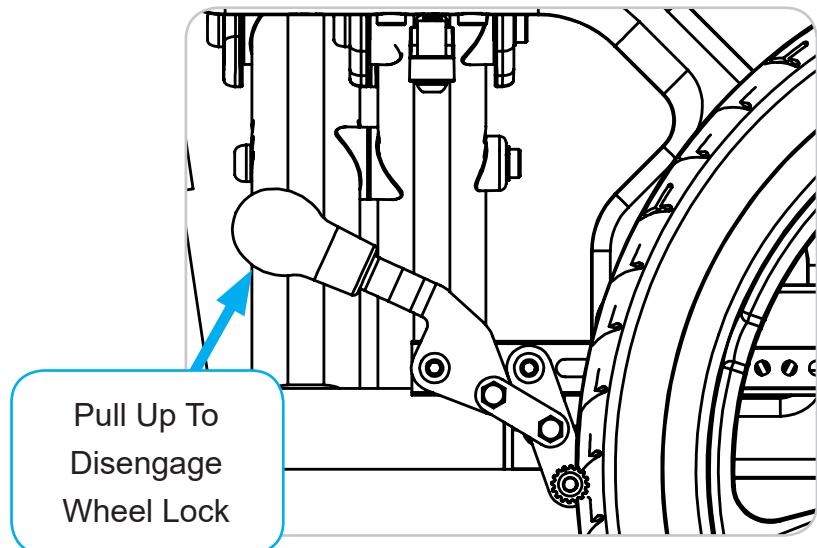

Figure 4
2. To disengage wheel locks, pull handle up. Reference Figure 4.